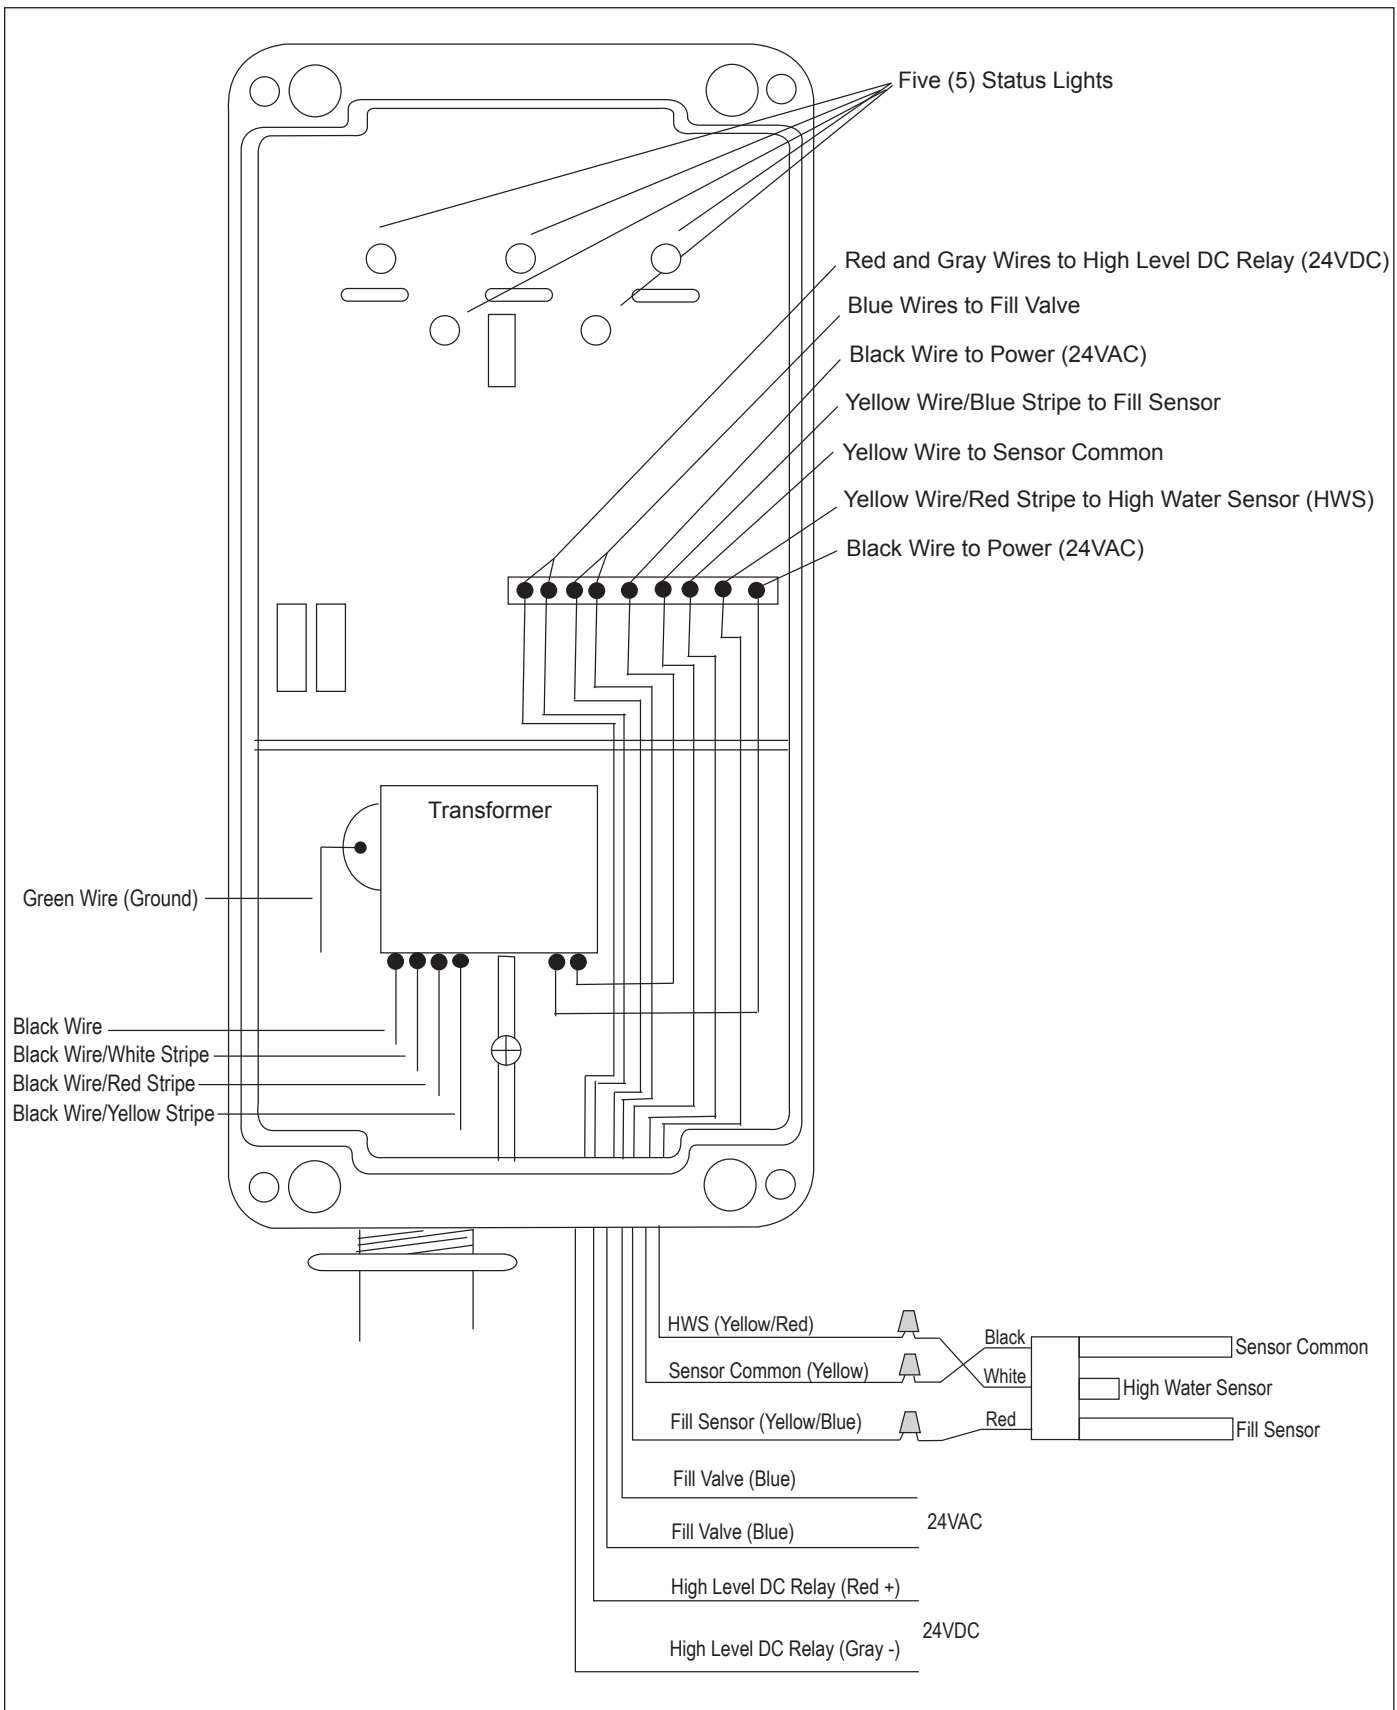

Figure 7. Control Box Wiring
2. Connect the wires from the Fill Valve to the blue wires in the control box using wire nuts. See Figure 7, Control Box Wiring, on page 10.
3. Connect the wires from the High Level DC Relay to the gray wire (-) and the red wire (+) in the control box using wire nuts. See Figure 7, Control Box Wiring, on page 10.
2. Connect the sensor wires as follows. Refer to Figure 7, Control Box Wiring, page 10 and Table 1, Sensor Wire Connections, shown below.